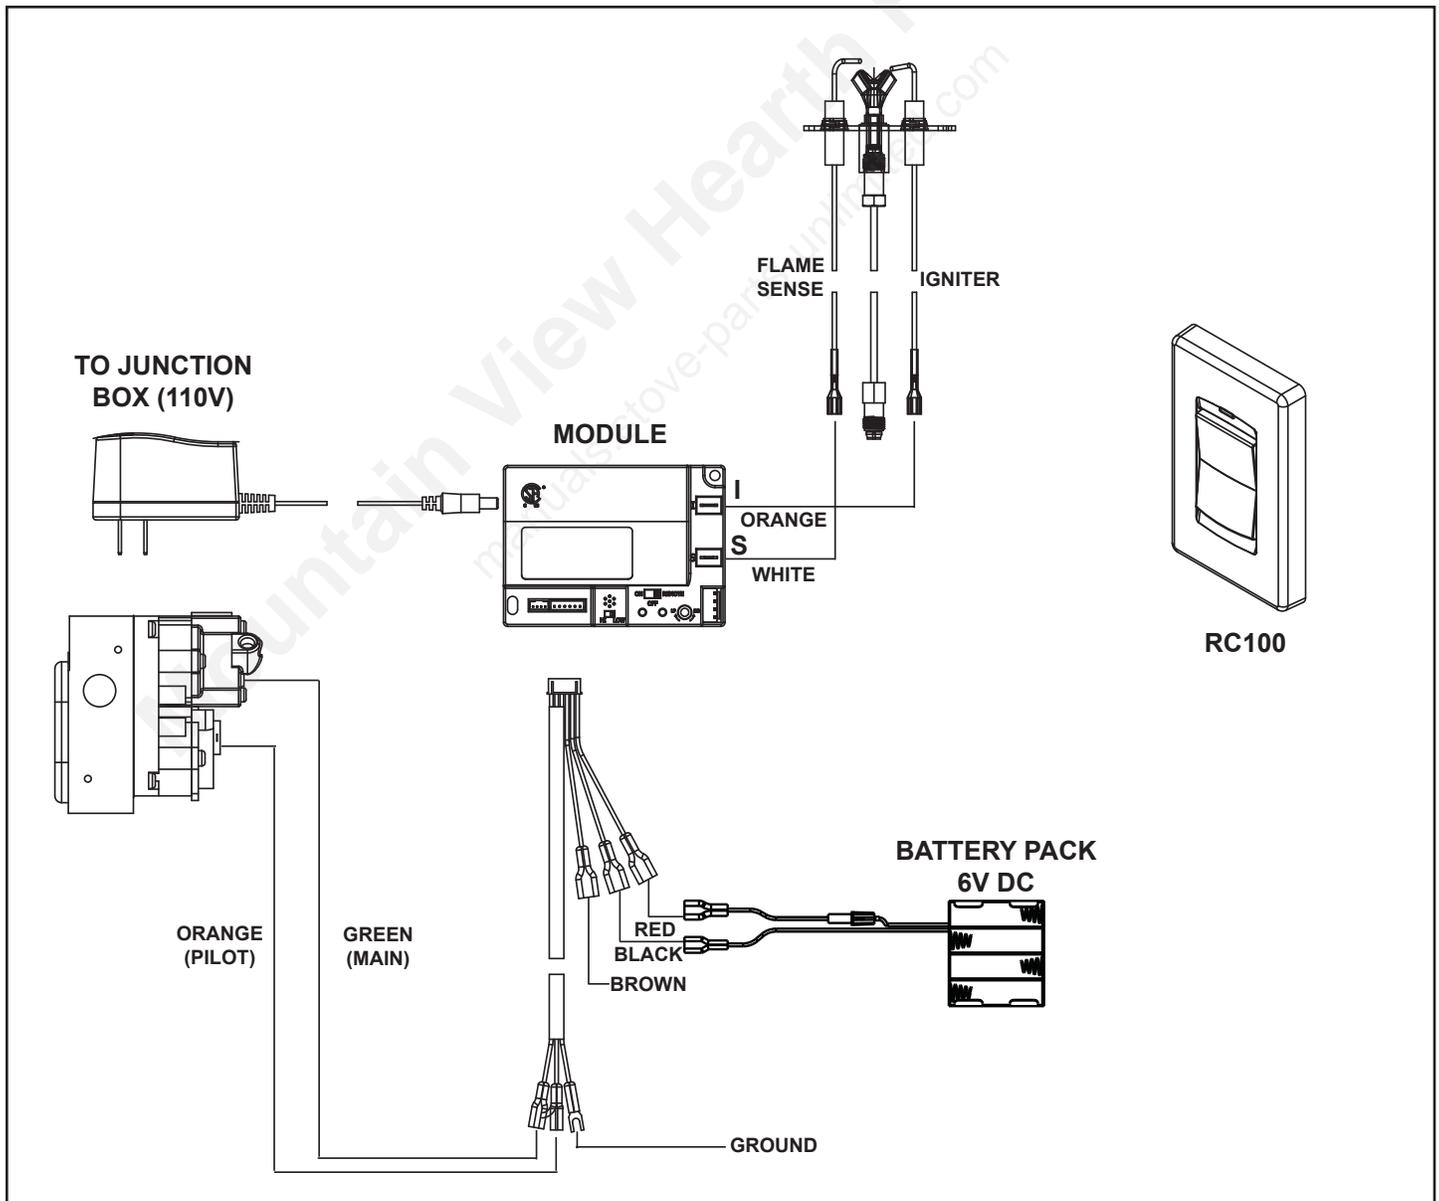

Figure 8.3 IntelliFire Pilot Ignition (IPI) Wiring Diagram
- Refer to Figure 8.3, IPI Wiring Diagram.